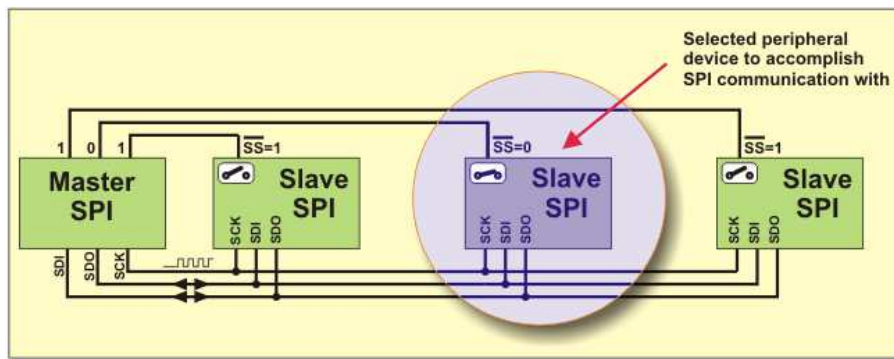

Fig. 6-13 SPI Mode
In addition to these three lines, if the microcontroller exchanges data with several peripheral devices, the forth line (SS) may be also used. Refer to figure 6-13 below.